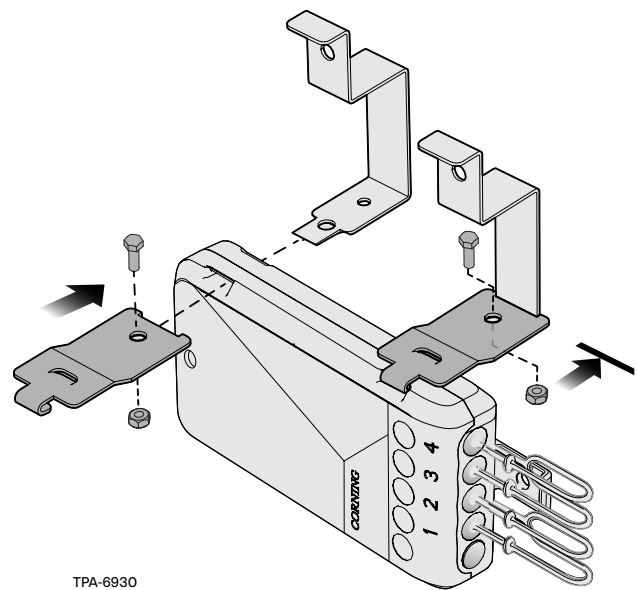

Figure 6
**Step 2:** Slide retaining clip into side slots on terminal, from the front (Figure 6).